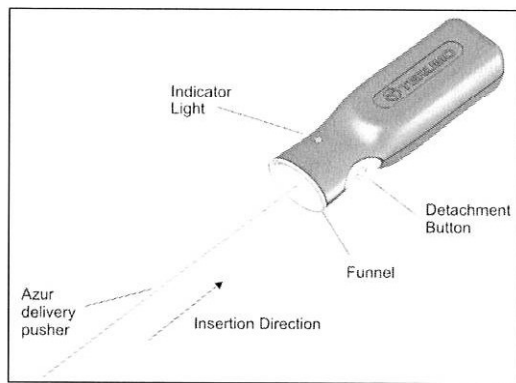

Figure 2 – Azur Detachment Controller
14. Prior to using the device, remove the proximal end of the delivery pusher from the packaging hoop. Use care to avoid contaminating this end of the delivery pusher with foreign substances such as blood or contrast. Firmly insert the proximal end of the delivery pusher into the funnel section of the Azur Detachment Controller. See Figure 2. **Do not push the detachment button at this time.**
35. Connect the proximal end of the delivery pusher to the Azur Detachment Controller by firmly inserting the proximal end of the delivery pusher into the funnel section of the Azur Detachment Controller. See Figure 2.